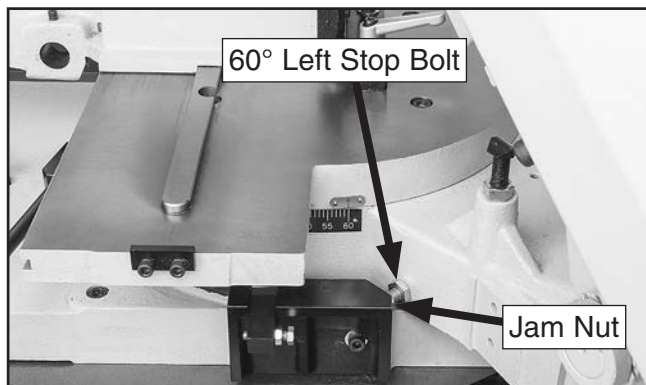

Figure 96. 60° left stop bolt and jam nut location.
2. Rotate swivel lock handle toward base, then rotate headstock *clockwise* until base contacts 60° left stop bolt (see **Figure 96**).
- If square *does not* fit snugly against outer fixed jaw and blade, loosen jam nut shown in **Figure 96**. Thread stop bolt inward or outward as necessary until square fits snugly against outer fixed jaw and blade while base contacts stop bolt.